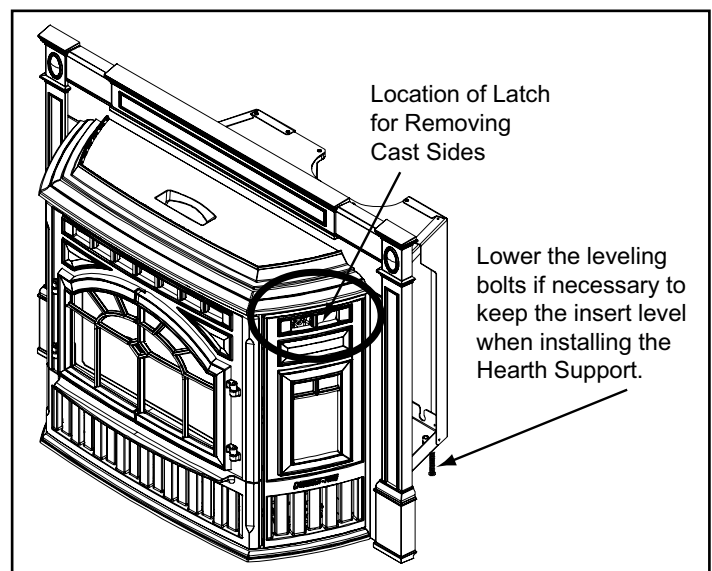

Figure 19.4 - Shown with Cast Panel Set
1. There is a latch on the back side of the cast side in the middle of the top opening of the cast side as indicated in **Figure 19.4.**
8. Remove both left and right cast sides from insert. **See Figure 19.4 page 19.**
3. Remove the 2 cast sides and slide the assembled trim over the assembled panel set. **See Figure 19.4 on page 19.**